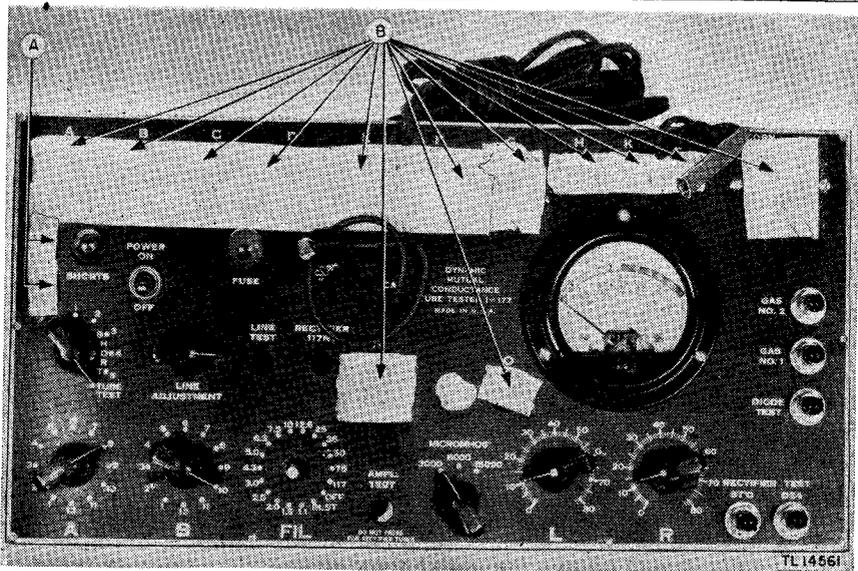

Figure 11. Tube Tester I-177, front view, masking for moistureproofing and fungiproofing.
- (l) Faces of noise test jacks, item A, figure 11.
- (m) Faces of all sockets mounted on front panel, item B, figure 11.
(3) PREPARATION. Thoroughly clean all equipment to be treated by removing all oil, dirt, rust, or fungus adhering to components.